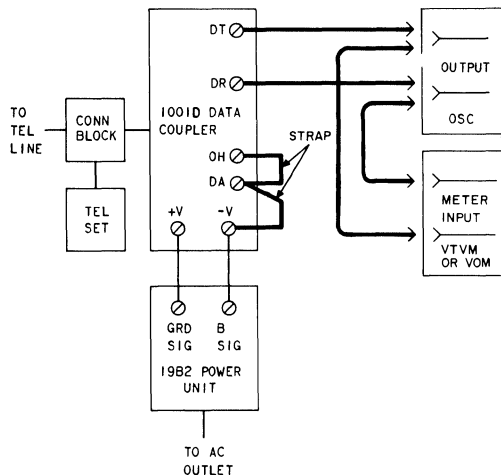

Fig. 15—Test Equipment Connections for Impedance Matching Test
- (1) Set the oscillator for a 1000-Hz frequency and a 600-ohm output impedance.
- (2) Select the proper scale on the VOM to measure -5 dBm.
- (3) Connect the test equipment and straps as shown in Fig. 15.
- (4) Adjust the oscillator output level to obtain a -5 dBm indication on the VOM.